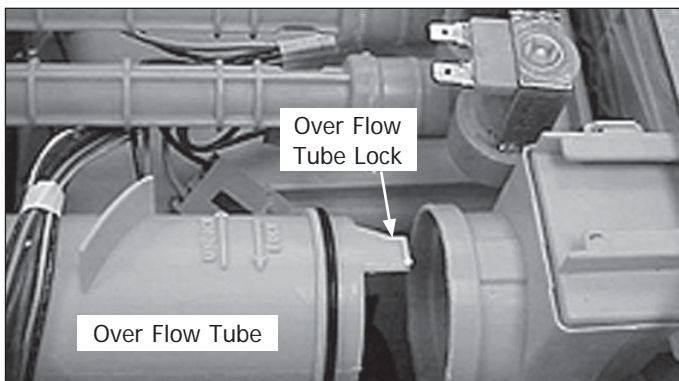

Figure 4-50.
2. Turn the tube counter clockwise about a 1/16 of a turn to unlock the tube. Then pull the tube back to disengage it from the detergent dispenser housing. (See Figure 4-50)